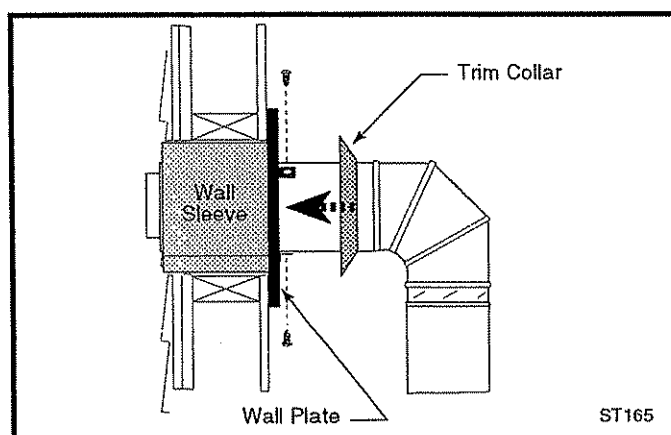

Fig. 34 Install the horizontal pipe and wall plate parts.
9. Seal the ends and connect the horizontal pipe to the elbow. Secure the Wall Plate to the pipe using three sheet metal screws. Slide the Trim Collar up against the Wall Plate to cover the screws. (Fig. 34)